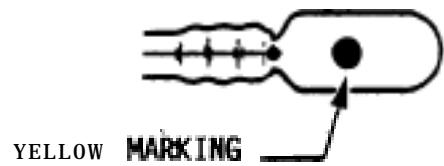
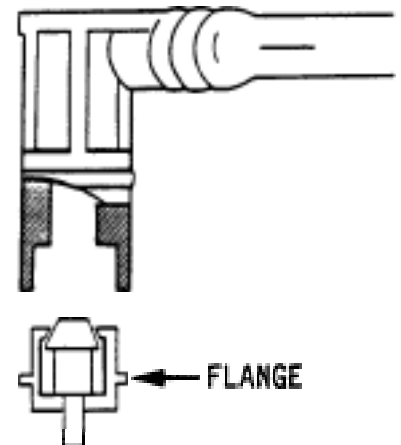

Figure 3. A yellow mark at the return line fitting indicates the new design check valve has been installed on the production line.
Figure 5. Install the valve core insert into the housing. Install the check valve assembly into the return line fitting.
1. First inspect the return line in the car. If there is a yellow dot on top of the return line fitting (Figure 3), a new design check valve has already been installed on the production line. Check to see that it has been installed correctly (Figure 5). If so, driveability problems are not related to this S.I..
5. Insert the new check valve insert into the new check valve housing. Install this check valve assembly into the return line housing. (Figure 5). The collar of the new housing should engage the groove in the return line fitting when the flange is flush against the bottom of the fitting (Figure 5).